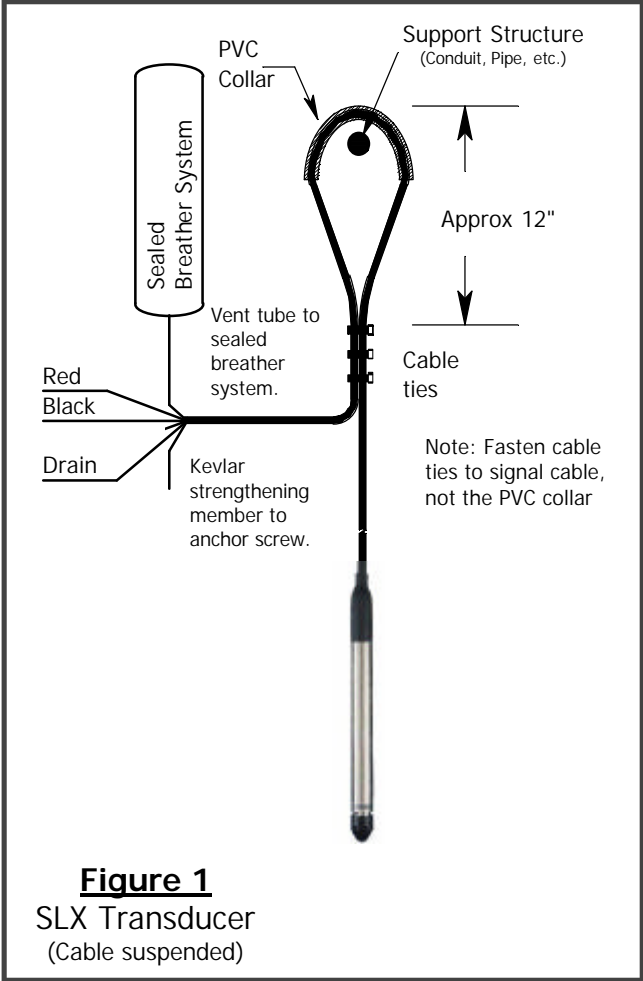

Figure 1
- 5) Secure the transducer's cable over the support structure by applying the supplied cable ties¹ separated by approximately 4 inches (Ref Fig 1). Many tie-wraps are supplied. These need to be inspected and periodically replaced (as needed).